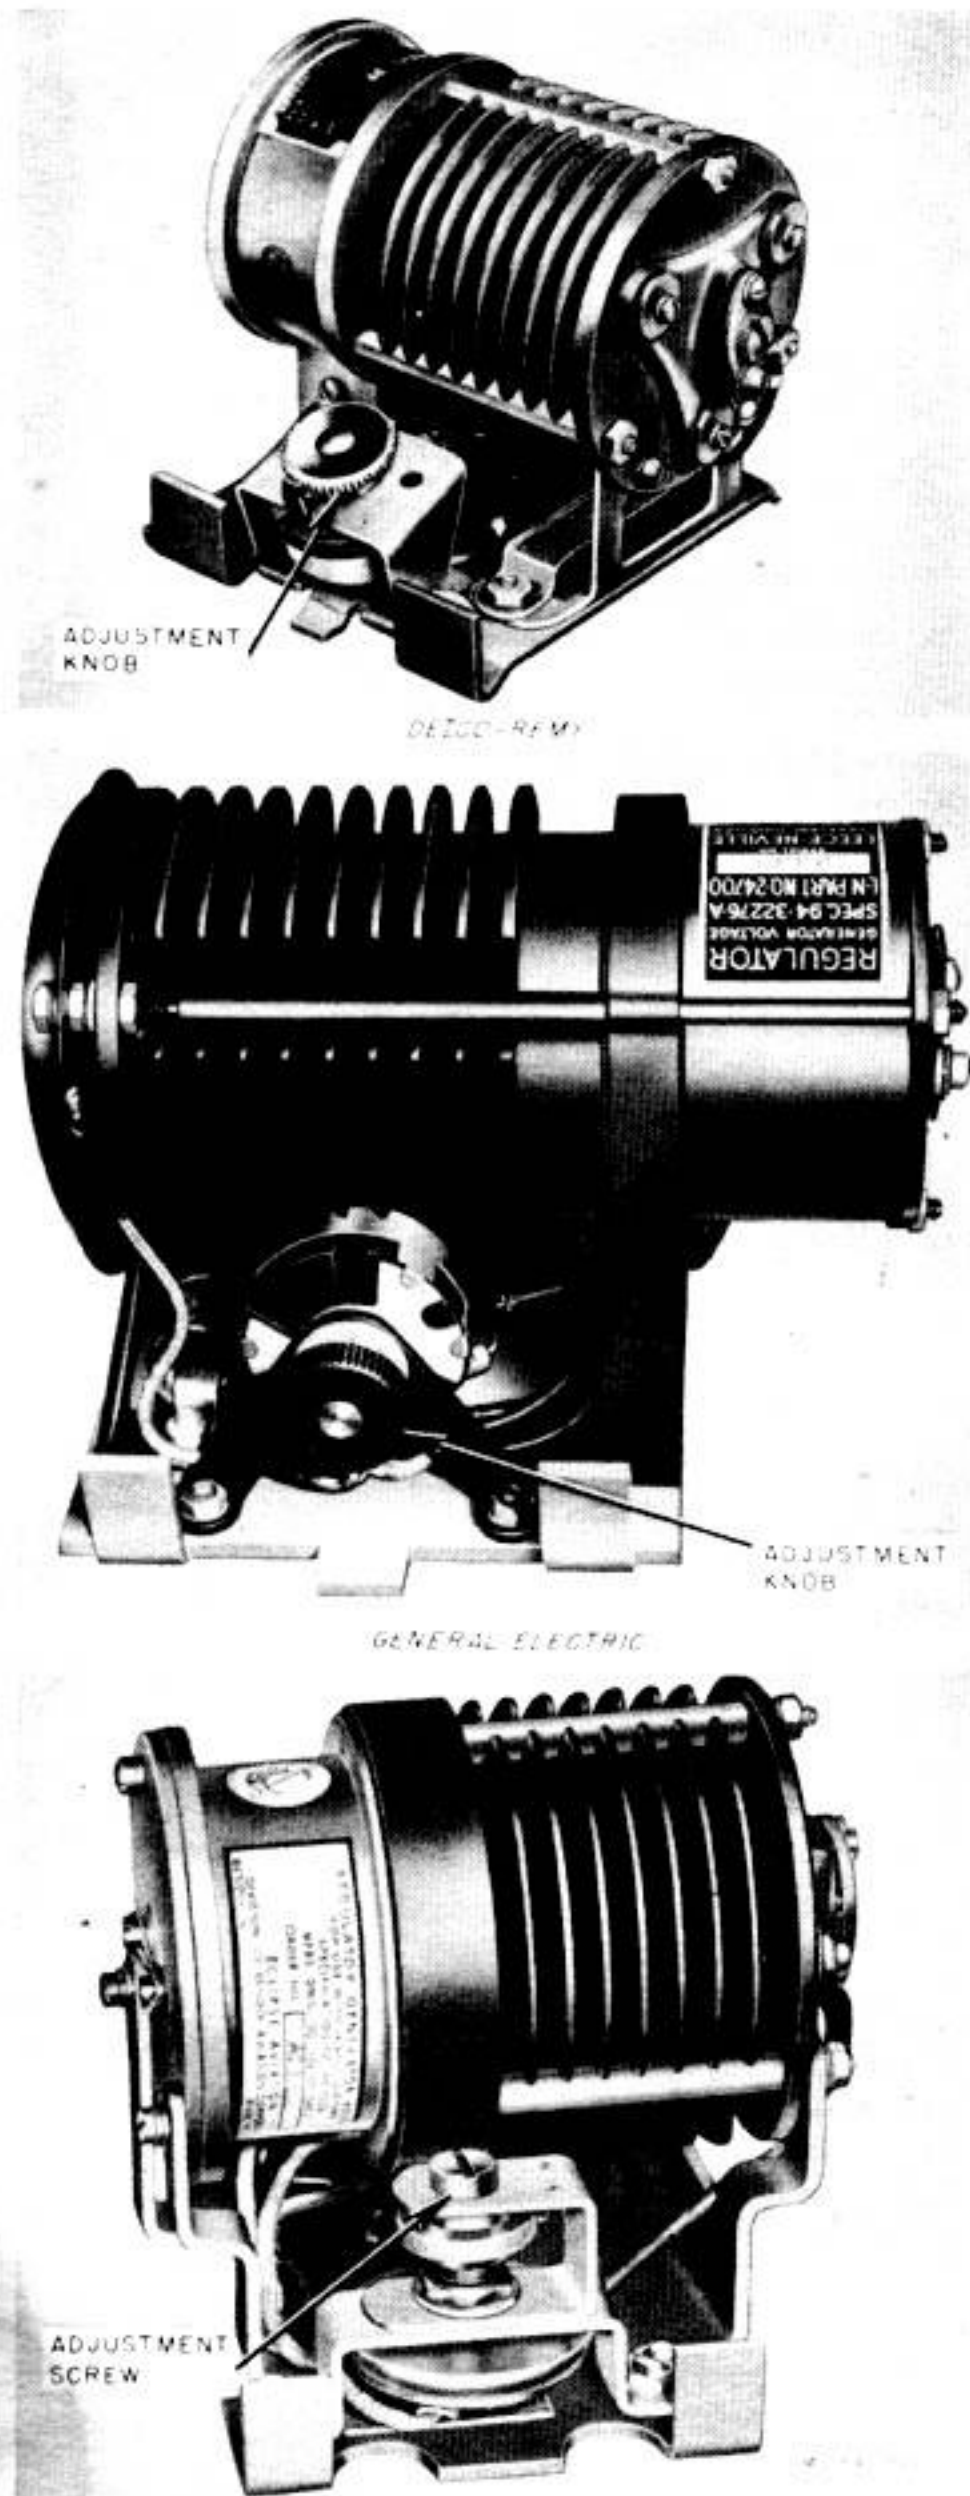

Figure 343—Voltage Regulator Adjustment
d. Start engine and permit it to reach proper operating temperature; then gradually increase rpm to 1800. Voltmeter should then read 28 volts. If it does not, adjust voltage regulator by turning the adjusting screw or knob (*figure 343*) to the right to increase voltage, or to the left to decrease voltage.